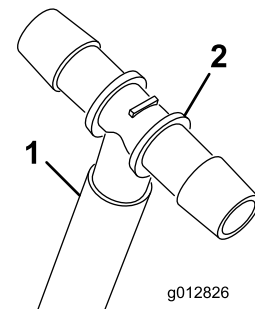

Figure 18
25. Insert a clamp onto the short hose and then insert the tee fitting into the end of the short hose (Figure 18).